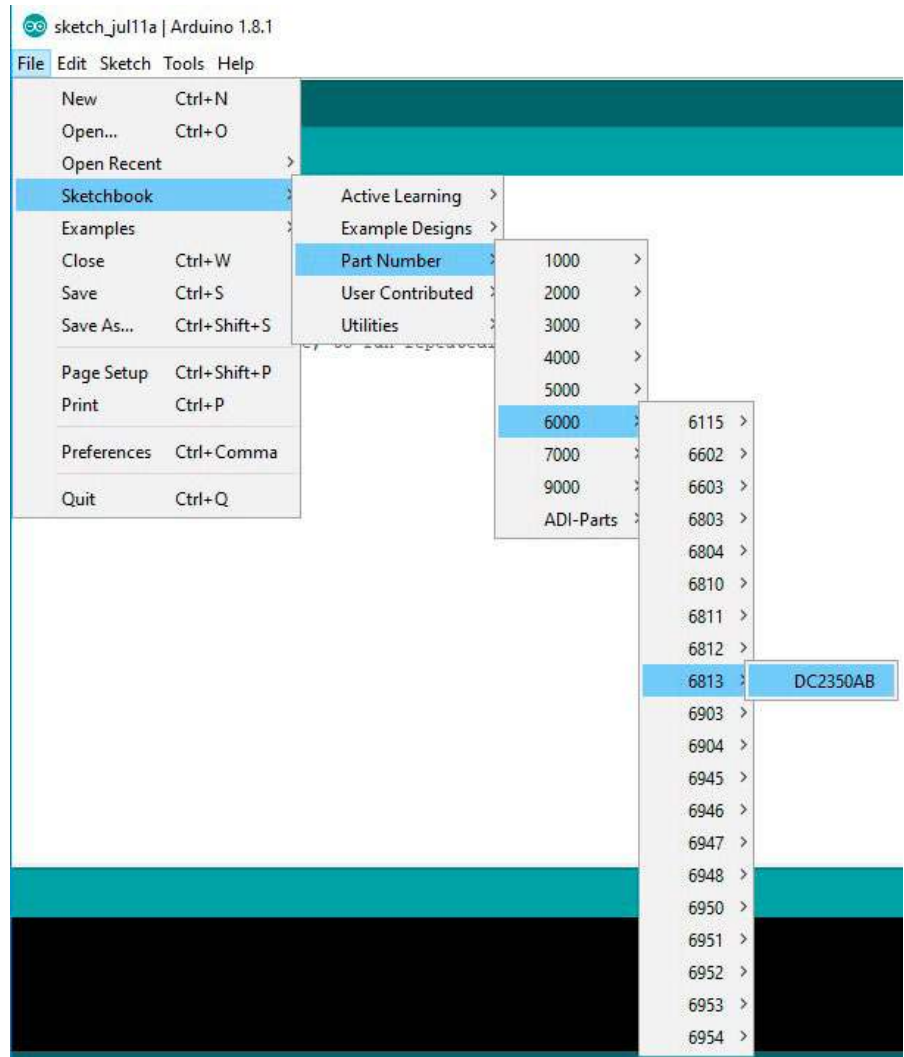

Figure 7. Selecting the LTC6813 Sketch
6. Open one of the programs or **sketches** associated with the DC2350B. In this example LTC6813 sketch will be opened. Under the **File** menu, select **Sketchbook** → **Part Number** → **6000** → **6813** → **DC2350AB** (see Figure 7).